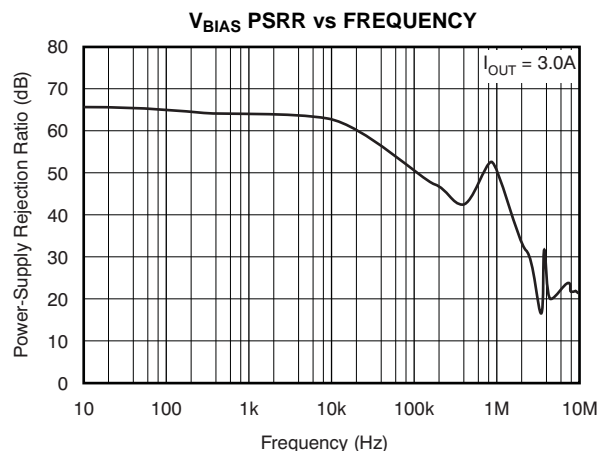
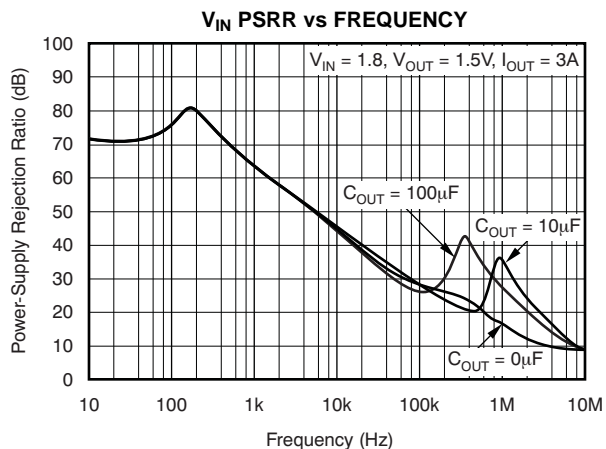

Figure 10.
Figure 13.
(3) I_{FB} current flow is out of the device.
(4) See Figure 10 to Figure 13 for PSRR at different conditions.